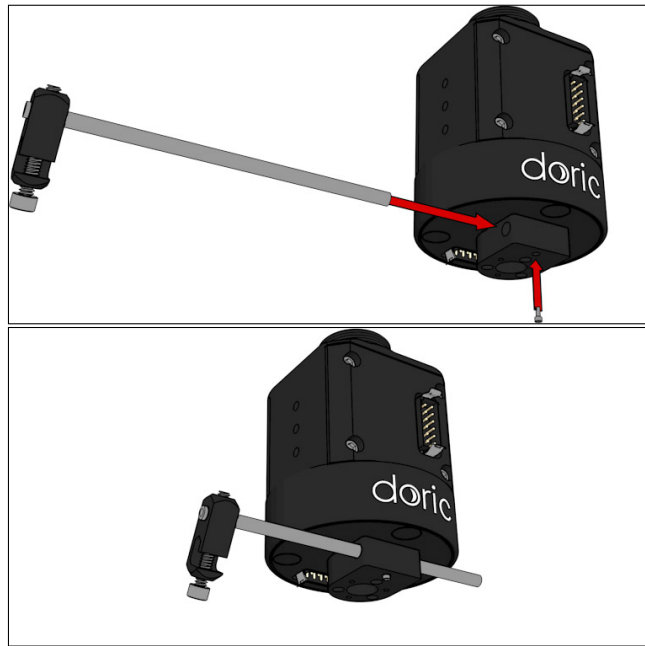

Figure 2.6: Horizontal Cable Holder Standoff Placement
1. Slide the cable holder rod with the cable clamp facing down into the pre-installed adapter situated under the rotary joint (Fig. 2.6). The rod is held in place using a 2-56 set-screw on the underside of the adapter.
2. Secure the clamp (facing down) onto the cable adapter rod using a #4-40 nylon set-screw (Fig. 2.6).